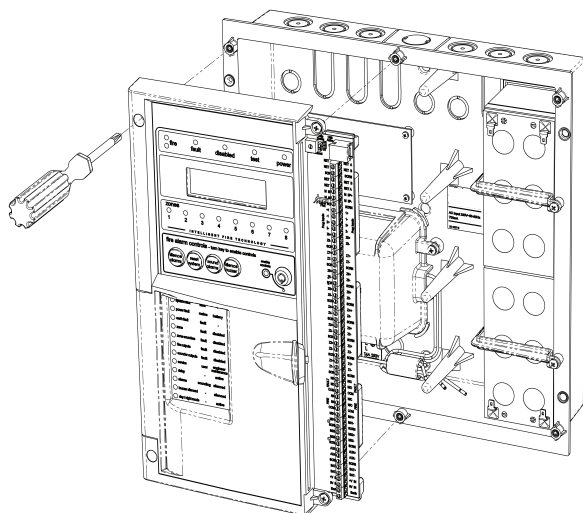
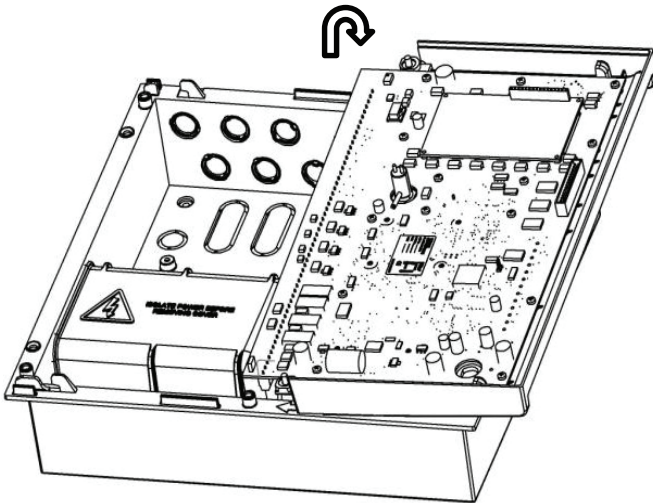

Fig1
Fig 2
5. Unscrew the four fixing screws that secure the left hand CIE assembly (Fig 1), then flip the assembly over clockwise (Fig 2).
8. Flip the left hand CIE assembly back over clockwise (reverse fig 2) and plug the other end of the ribbon cable assembly into the connector marked (expansion connector) on the CIE PCB (again this will only fit one way).
9. Secure the CIE assembly onto the base molding (Fig 1) (ensure that all cables ends are accessible for termination) and secure into position.